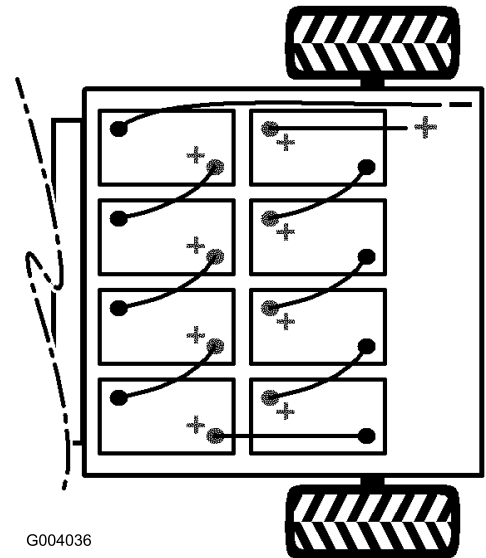

Figure 28
2. Disconnect the long, black, main negative lead running from the bank of batteries to the vehicle from the battery post (Figure 28).
3. Remove the long, red, main positive lead running from the bank of batteries to the vehicle from the battery post (Figure 28).
- Note:** Pay attention to the battery polarity when installing the new batteries (Figure 28).
9. Connect the batteries together with the battery cables removed previously, as shown in Figure 28.
10. Connect the long, red, main positive lead between the bank of batteries and the vehicle (Figure 28).
11. Connect the long, black, main negative lead between the bank of batteries and the vehicle (Figure 28).